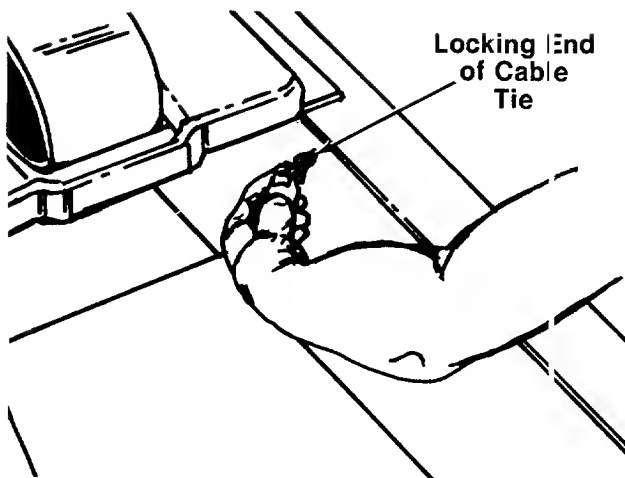

FIGURE 9.
8. Push the locking end of cable tie (I) through the hole in the left frame as shown in figure 9. Route the battery drain tube back to the cable tie. Place end of cable tie through the slot so a loop is formed around the drain tube to secure it. Tighten cable tie and cut off excess end.